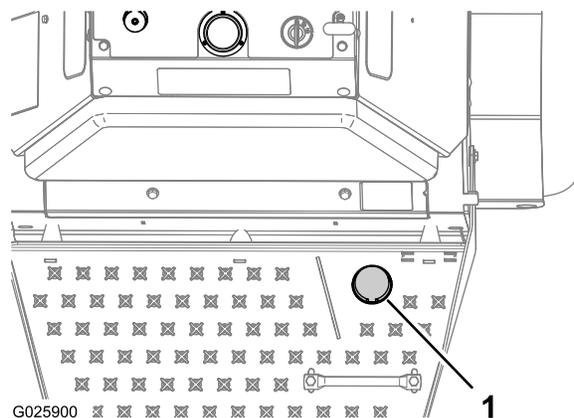

Figure 18
2. Step on the tine-elevation switch to lower the tines (Figure 18).
3. Stand on the switch and move the traction-control levers forward to aerate (Figure 18); refer to Traction-Control Levers \(page 15\).
To raise the tines, remove your foot from the tine-elevation switch (Figure 18).